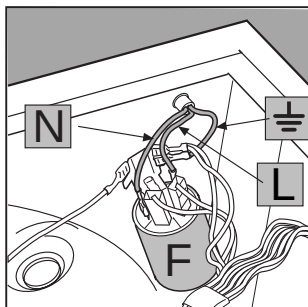

Fig. 4
3. Disconnect the wires from the radio interference suppressor **F** [fig. 4] noting as to their position (**Blue=N** wire; **Brown=L** wire) leaving the earth wire until last $\perp$.